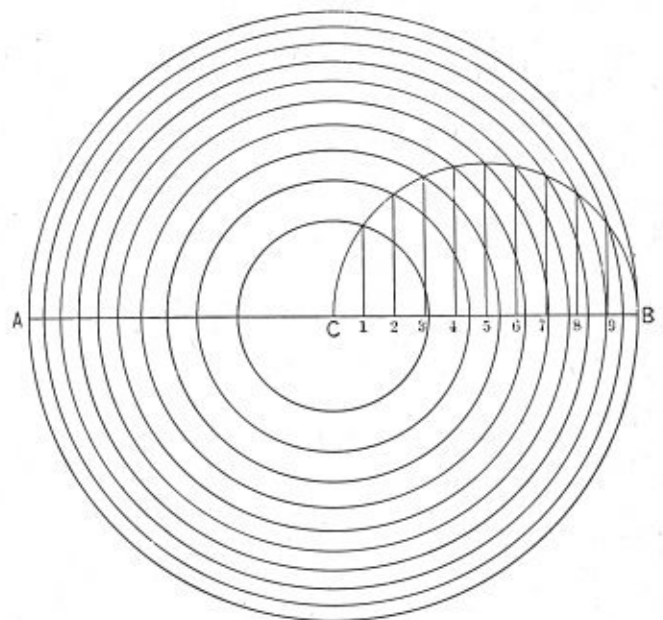

Fig. 3
- 4.—That in any circle, any two chords cutting each other, the areas given by the two segments as rectangle of either chord are equal. Fig. 3 shows an interesting variation of the same problem.